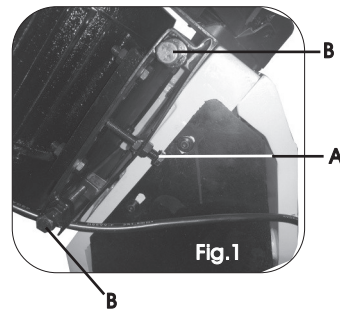

Fig.1
3. Loosen the motor plate lock bolt (Fig.1,A).
4. Loosen the motor slide bolts (Fig.1,B), you should now be able to push the motor inwards to slacken the belt.